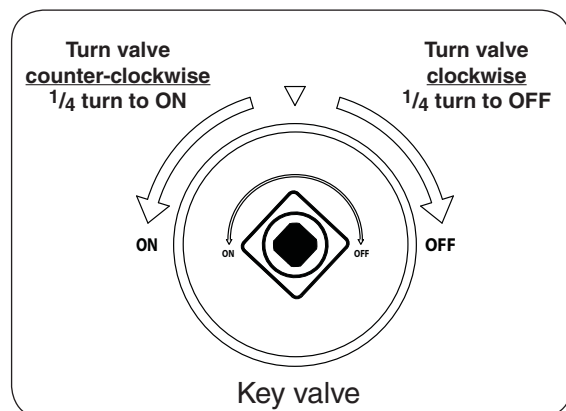

Fig. 21-2
4. **Once the match is burning and in position**, turn the key valve counter-clockwise a $1/4$ turn to the **ON** position (see Fig. 21-2). Your burner should light.
To extinguish your gas burner, turn the key valve clockwise a $1/4$ turn to the **OFF** position (see Fig. 21-2). Be sure the key valve is turned fully off to avoid any gas leakage.